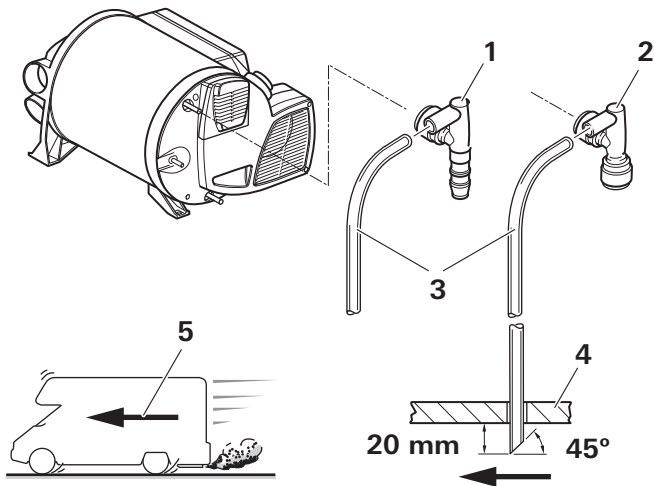

Fig. 35
- Feed the venting hose through a drilled hole in the floor of the vehicle and cut it at a 45° angle to the driving direction approximately 20 mm below the floor (Fig. 35).
- Seal the gap between the hose and the hole with plastic body sealant from below (Fig. 35).